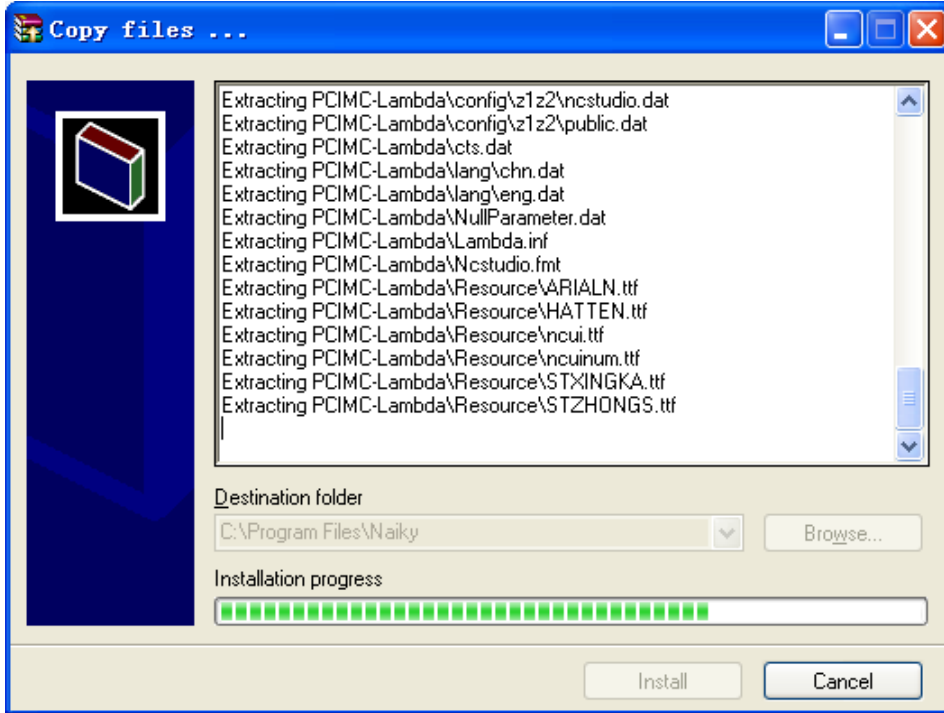

Fig. 3-11 Software setup progress
- 3) Click “OK” to continue installation, the progress bar displayed, as shown in Fig. 3-11.